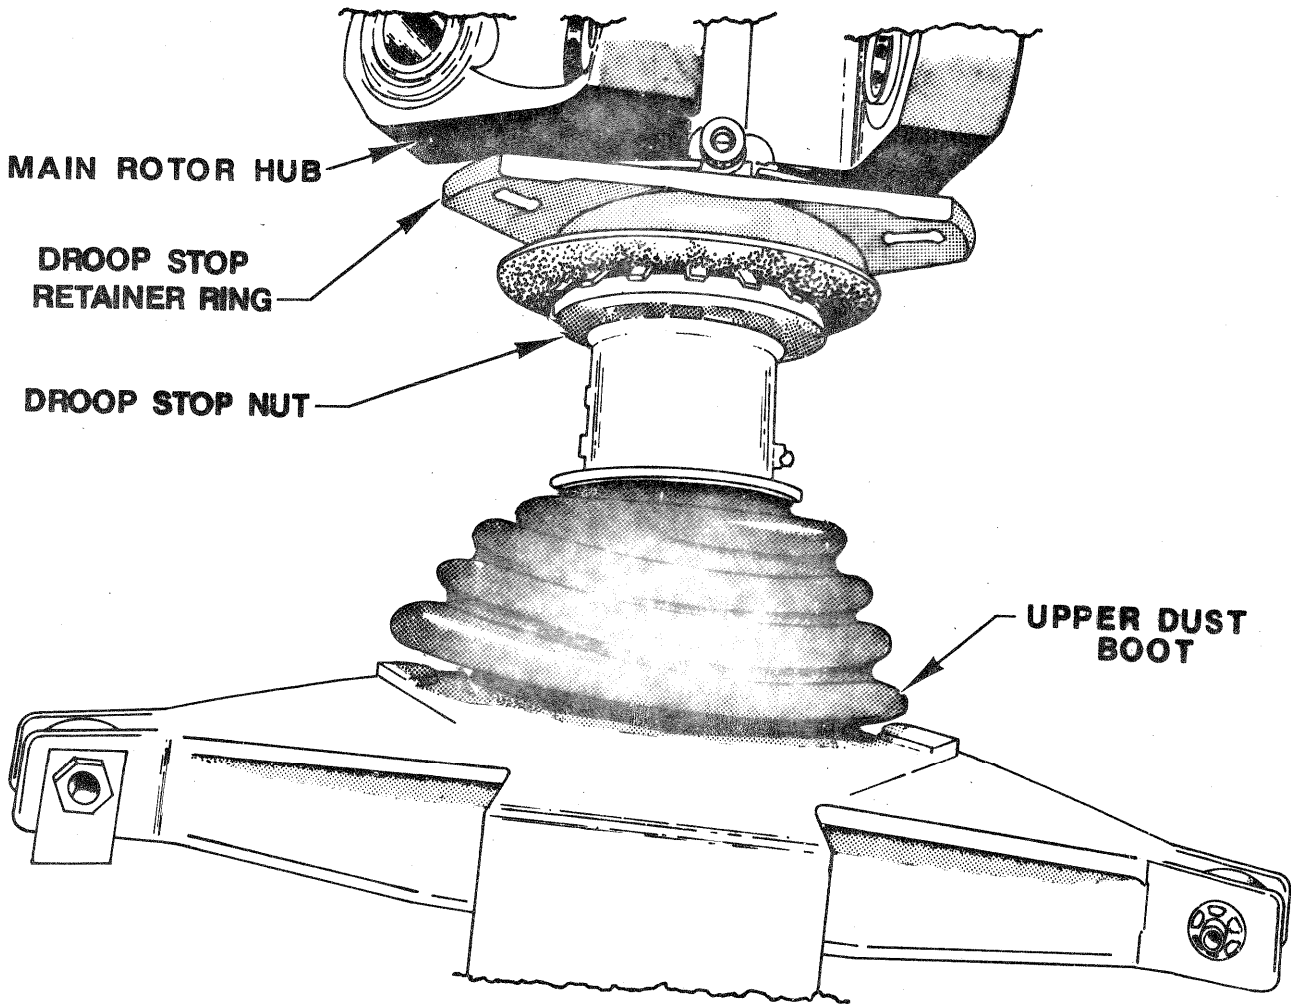

FIGURE 1.
- a. Using a damp rag, remove all dirt accumulation from droop stop nut (Figure 1).
- a. If installed, remove droop stop nut (shown in Figure 1) in accordance with Basic HMI, Section 8.